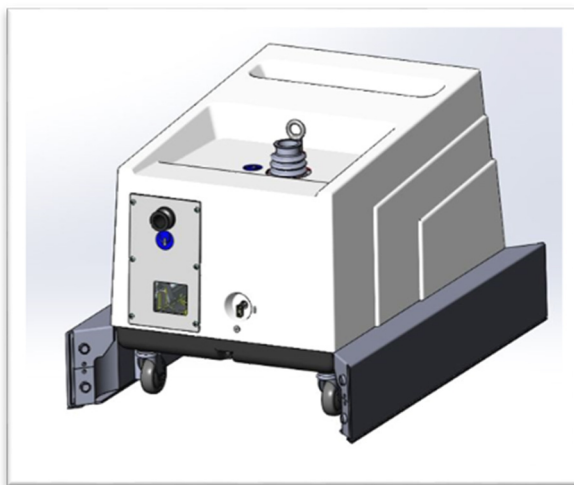

Figure 2 MS120 pump with Noise Abatement Panel, Long
- 2 Install the two Noise Abatement Panel, Long under the pump, as shown in figure 2: